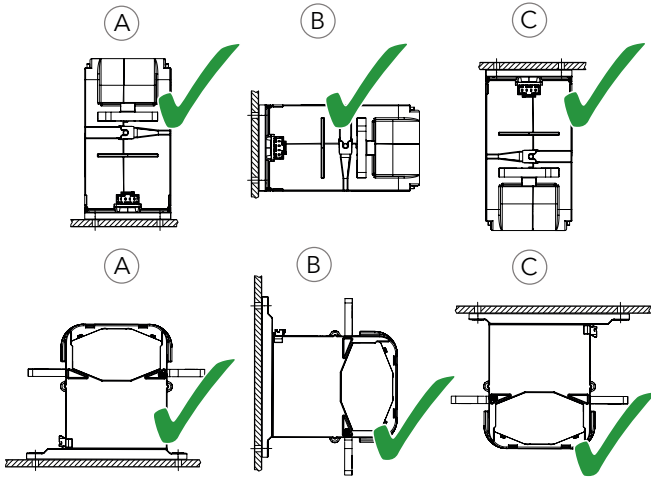
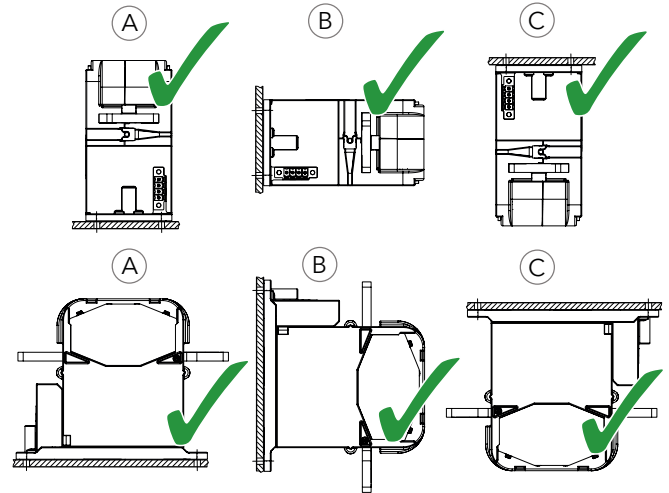

Fig. 6: C800-500-GxT...: Examples of permissible mounting orientations
Fig. 7: C800-500-GxP.../GxU...: Examples of permissible mounting orientations
Contactors versions for screw mounting are designed for horizontal (A), vertical (B) or upside down (C) mounting, as shown for example in (Fig. 6 and Fig. 7).